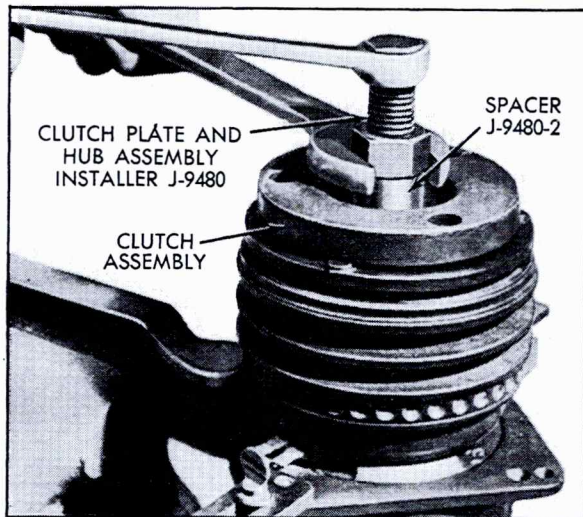

Fig. 1-40 Installing Clutch Plate and Hub Assembly
5. Hold hex portion of tool body with a wrench and tighten center screw several turns to press hub partially on shaft, Fig. 1-40.